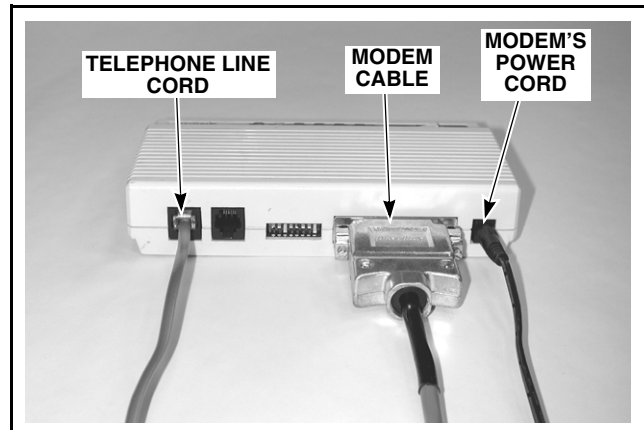
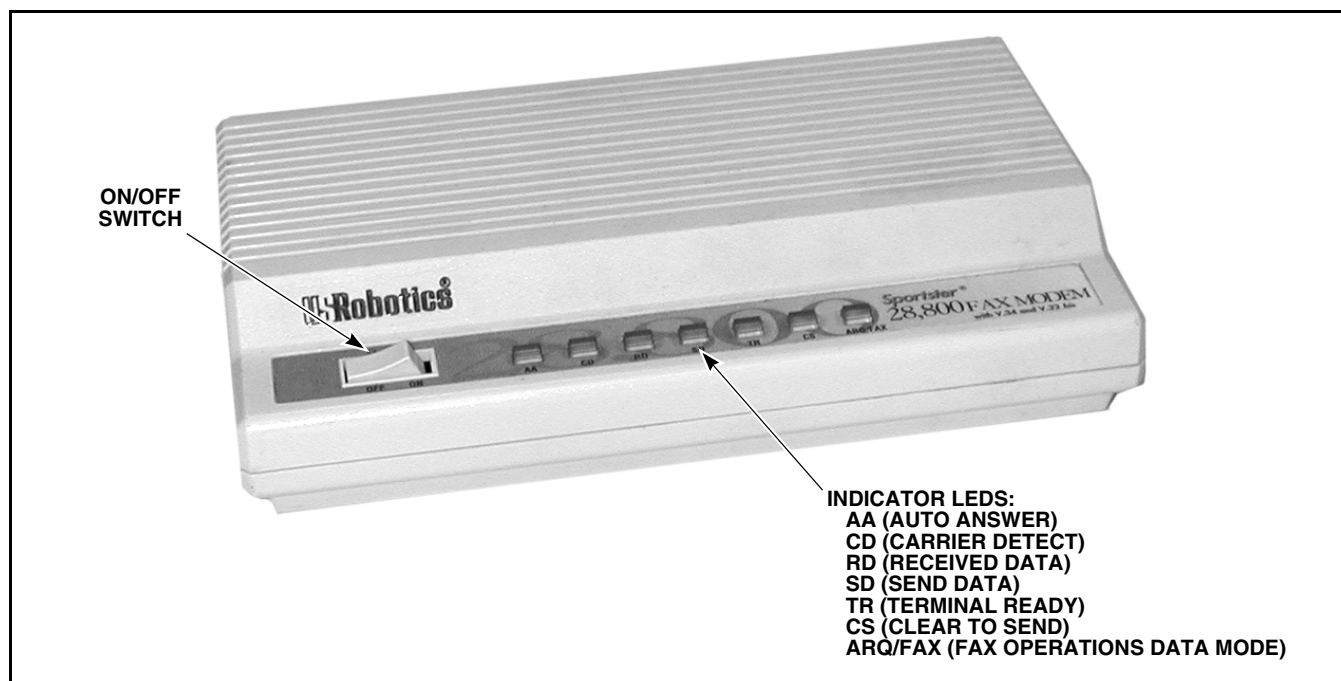
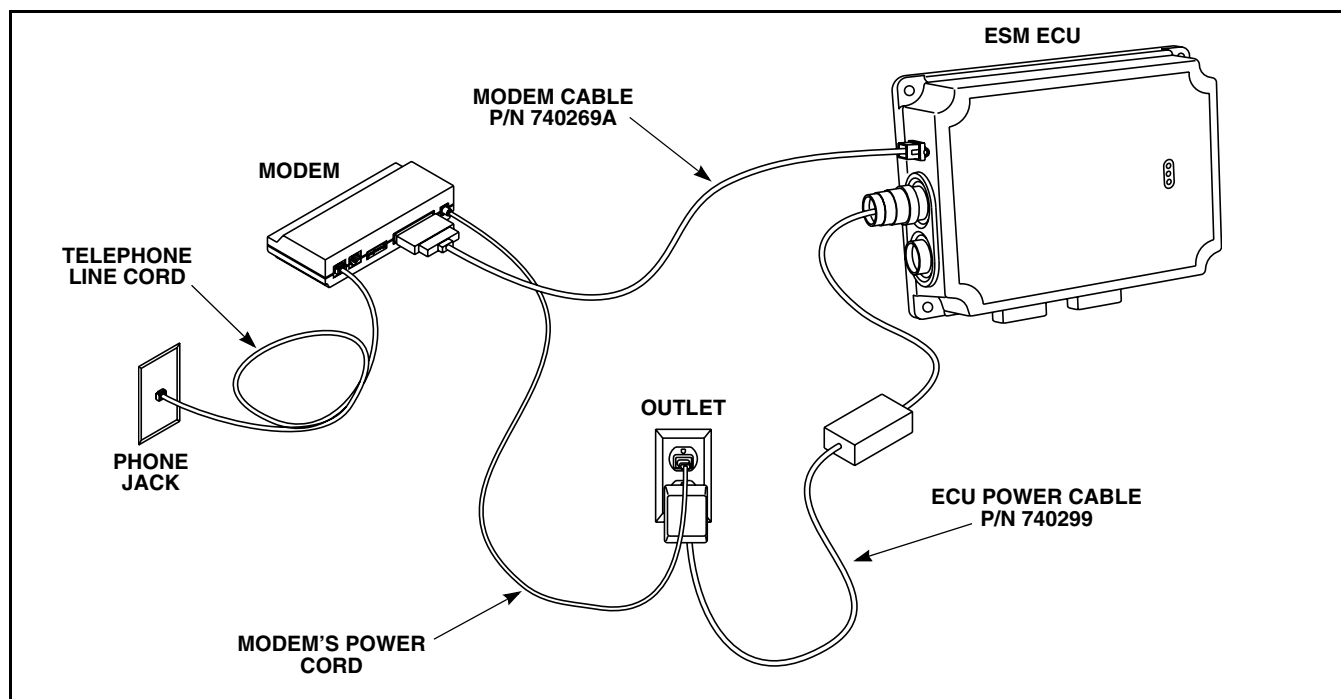

Figure 3.10-4 Connections to Back of Modem
Figure 3.10-5 Front of Modem
Figure 3.10-6 ECU Remote Programming Schematic
NOTE: Refer to Figure 3.10-4, Figure 3.10-5 and Figure 3.10-6 for the following Steps.
10. Plug telephone cord into back of modem as shown in Figure 3.10-4. Be sure telephone line is connected to correct port (port on the far left).
13. Verify that the AA ("Auto Answer"), CS ("Clear to Send"), and TR ("Terminal Ready") LEDs on the modem are lit (see Figure 3.10-5).